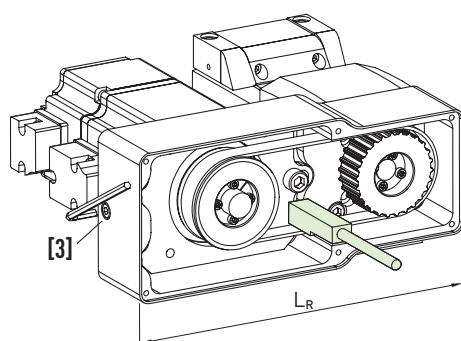

Fig. 6.42 Setting the belt frequency
- ▶ Carefully tighten the clamping bolt **[3]** on the housing's face side until the belt frequency $\pm 10\%$ calculated with formula F 6.1. This can be measured with a so called Trummeter, or belt tension meter, applied to the inside of the belt as shown in Fig. 6.42. Once the frequency is within the specified range, the mounting bolts **[2]** can be tightened on the motor flange (see Table 6.13). Secure the bolts.